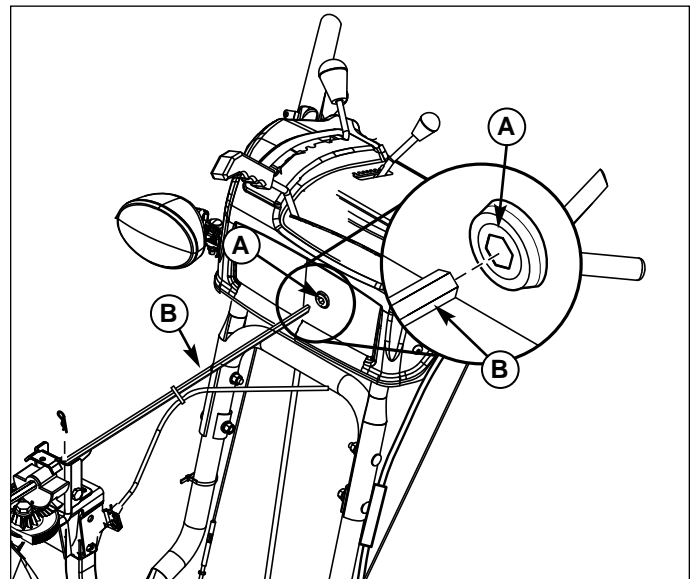

Figure 17. Install Spout Rotator Rod
16. Slide spout rotator rod (B, Figure 17) into hex dash opening (A).